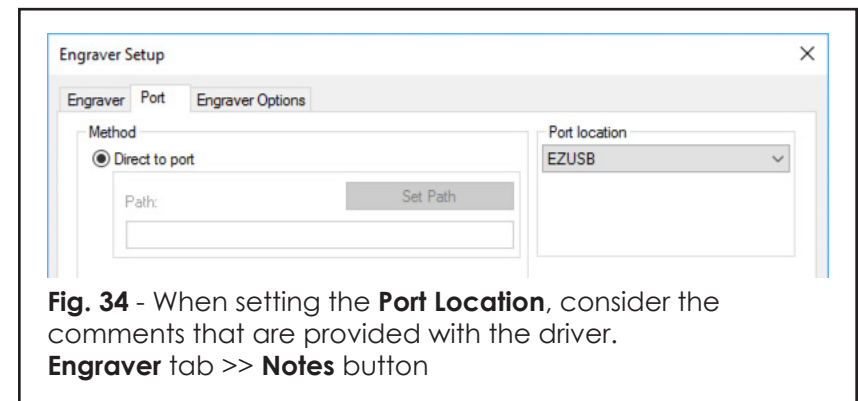

Fig. 34 - When setting the **Port Location**, consider the comments that are provided with the driver.
- Click the **Port** tab (Fig. 34).